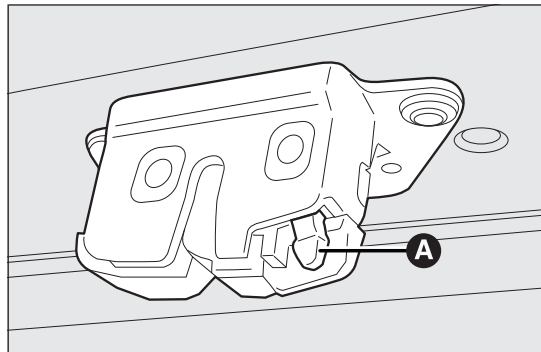

fig. 64
- ☐ from inside the boot, press lever A fig. 64 and open the tailgate.